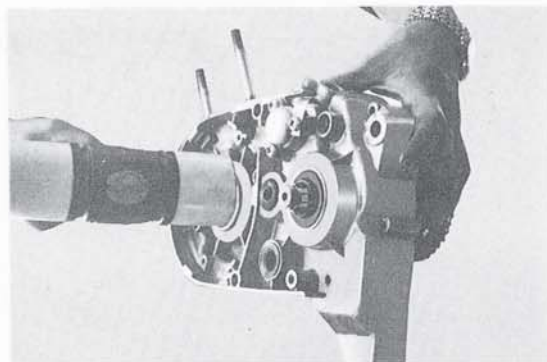

Fig. 4-15-4
2) Remove both the transmission assembly and the shift forks from the crankcase, while tapping the drive shaft end with a plastic-tip hammer. (Fig. 4-15-4)